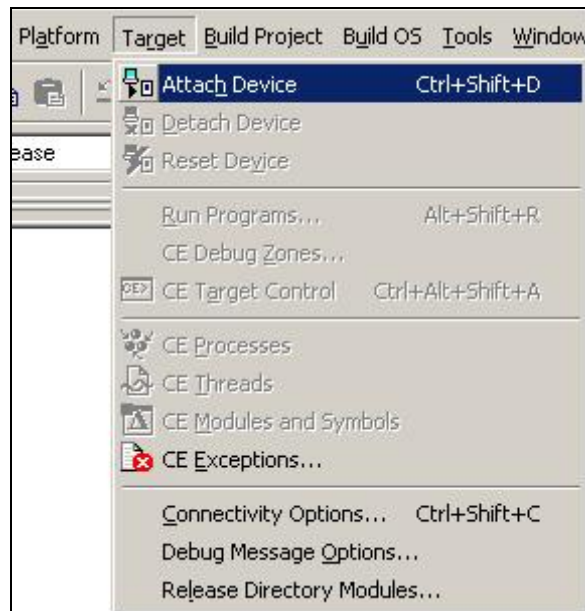

Figure 5-13 Attach Device to Download OS Image
1. Click **Target > Attach Device** (see Figure 5-13).